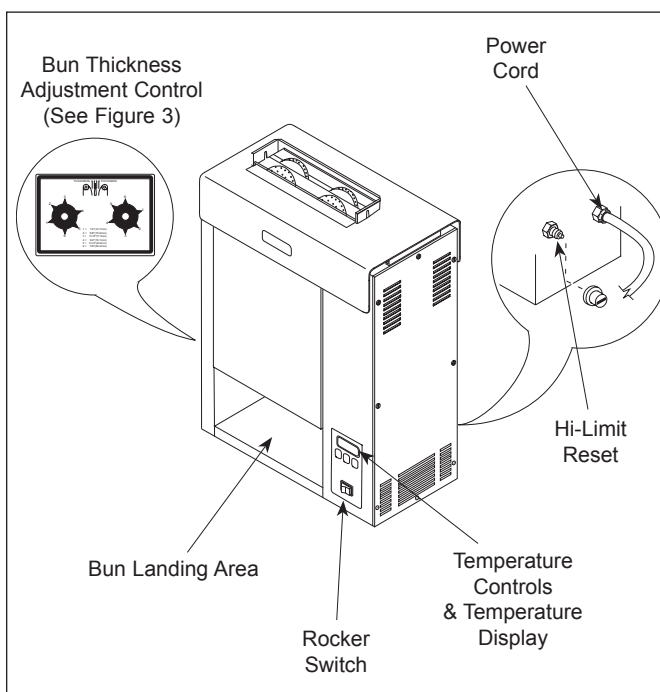

Figure 2. VCT-2000 Toaster
2. Turn the Rocker Switch on. (Figure 2). Allow the toaster to warm-up for 30 minutes before proceeding.
NOTE: The temperature display (Figure 2) will flash "LO" until the toaster reaches its preset operating temperature. When the toaster approaches the pre-set temperature of 600°F (315°C), "USE" appears in the temperature display and the unit is ready to toast buns. If "USE" does not appear in the window after warm-up period of approximately 30 minutes, contact your Authorized Service Agency.
3. Drop Crowns and Heels into the slot (Figure 2). **Cut sides of heel and crown must face each other.**
4. Toasted buns will drop into the bun landing area (Figure 2).
A Hi-Limit Control turns off electrical power to the heater and control circuits if the platen overheats. To reset the control, allow sufficient time (10-15 minutes) for the unit to cool, then locate the Reset Button at the rear of the unit. Remove the black protective cap, press the Reset Button, and reinstall the protective cap (Figure 2).